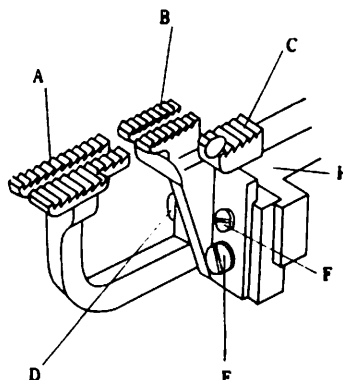

Fig. 29
- (1) The front feed dog A is adjusted by means of the screw D.
- (2) The rear feed dog B and the auxiliary feed dog C are adjusted by means of the screw E.
- (3) The auxiliary feed dog C is fixed on the rear feed dog B with the set screw F. Therefore, even when the rear feed dog B has been taken off by removing screw E, the auxiliary feed dog C remains fixed on the rear feed dog B with the screw F.
- (4) To vary the height of the rear feed dog B from that of the auxiliary feed dog C, loosen the screw F and make adjustment as desired. When both feed dogs are fixed on the rear feed dog holder H, loosen the screws E and F to make this adjustment.
- (5) Normally the auxiliary feed dog C is set so that its upper surface may come 1-1.5 mm below that of the rear feed dog B. (See Fig. 29)